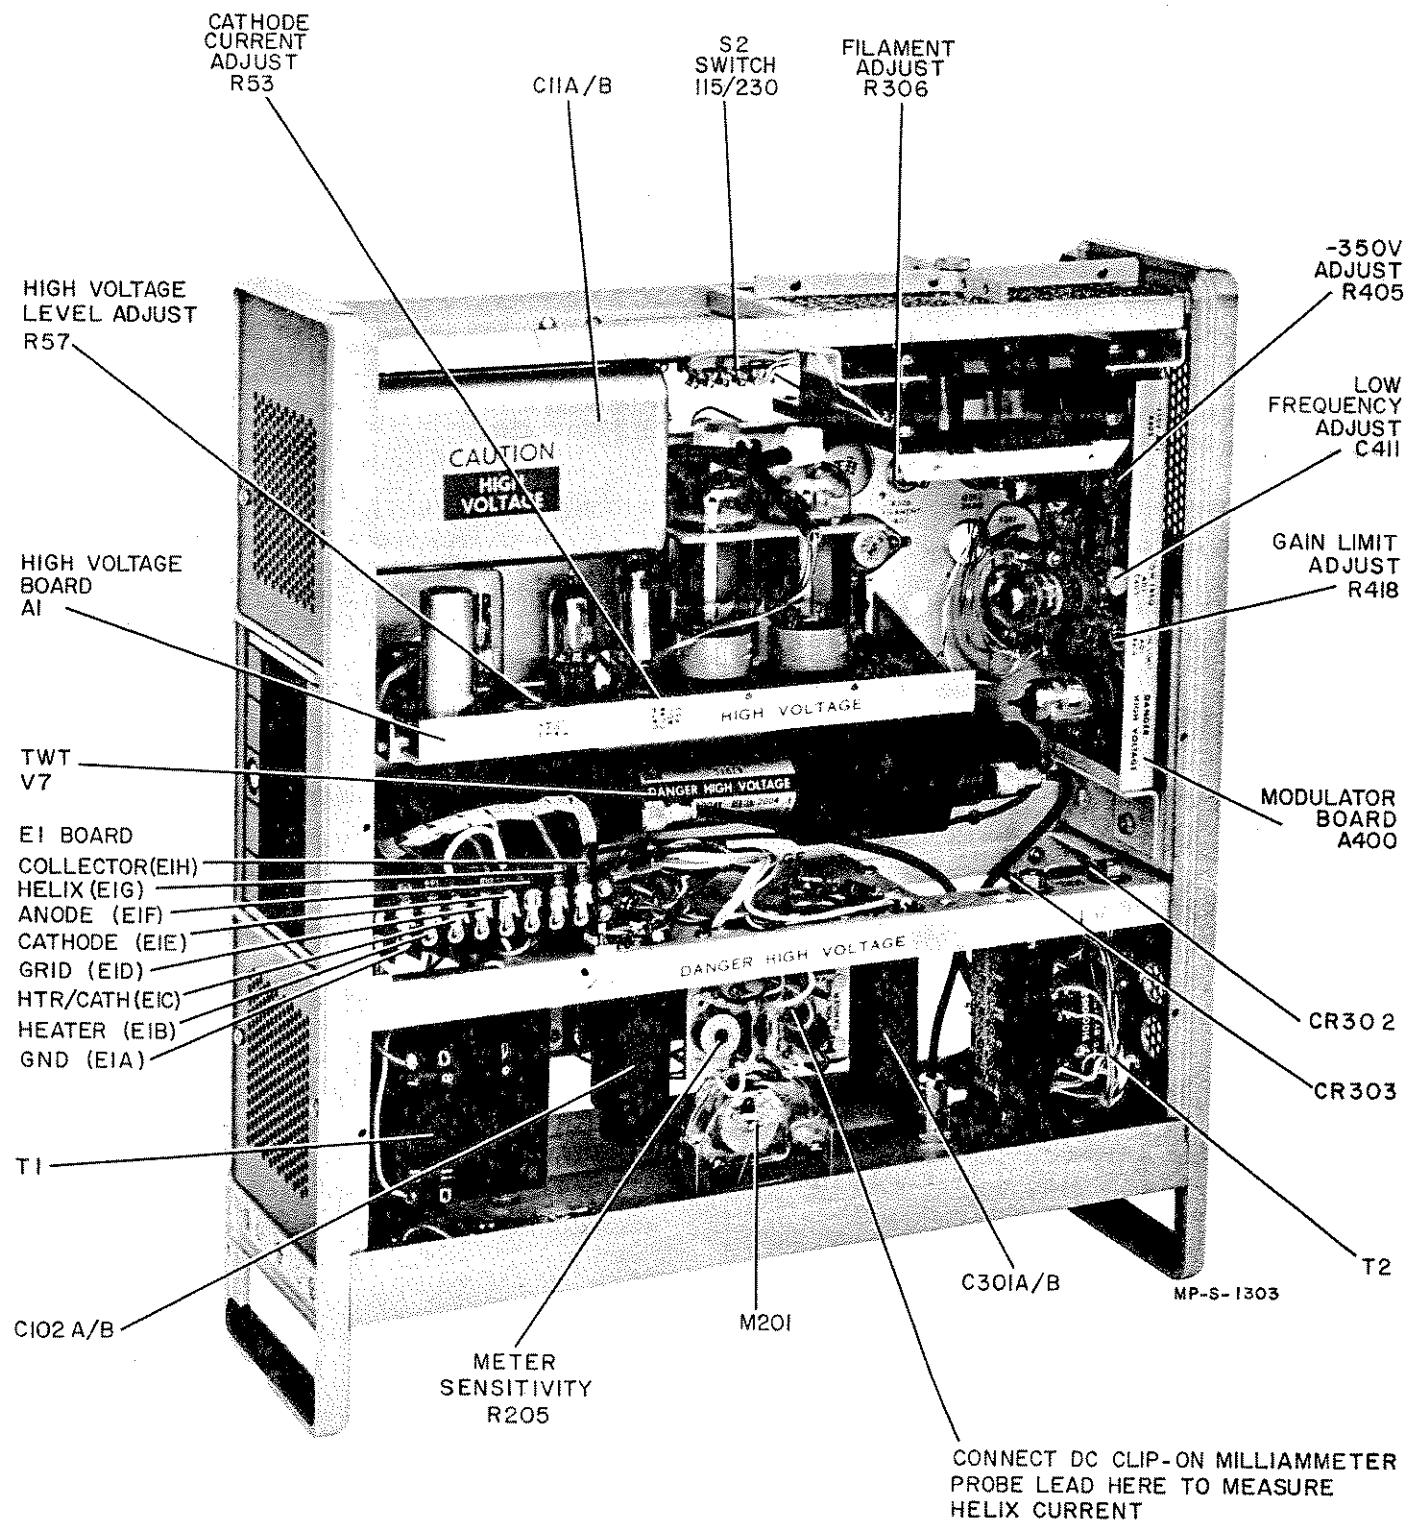

Figure 5-3. Model 493A Top View
- g. Remove E1 mounting screw nearest ground terminal (E1A, Figure 5-3), and swing E1 assembly aside.
- f. Connect jumper wire between E1C (grey filament lead) and E1E (white cathode lead) on the E1 board. All replacement tubes require the jumper between E1C and E1E. Connect the TWT lead to terminal board E1 as shown in table 5-2 and figure 5-3.
- b. Rotate filament adjust R306, (figure 5-3) full counterclockwise.
- c. Connect dc voltmeter between E1B and E1C (see figure 5-3). DC voltmeter to 10-volt range.
- a. Parallel an ac and dc voltmeter; connect between helix terminal (E1G) and ground (figure 5-3).
- c. With the high voltage adj. R57, (figure 5-3) set the collector/helix voltage to the value stamped on the TWT capsule.
- a. Parallel and ac and dc voltmeter; connect between anode terminal (E1F) and ground (figure 5-3).
- b. With the cathode current adjust R53 (figure 5-3), set anode voltage to value listed in TWT data sheet.
b. With the -350 volt adj. R405 (figure 5-3), set -350 volt regulated power supply to -350 volts.
a. Parallel an ac and a dc voltmeter; connect between grid terminal E1D and E1E (figure 5-3).
e. Connect a dc clip-on milliammeter to the orange or yellow lead located on the board directly behind the current meter (see figure 5-3).
d. Adjust high frequency adj. R411 (see figure 5-3), for optimum square-wave output. Rise time should be less than 0.8  $\mu$ sec, overshoot less than 5%.